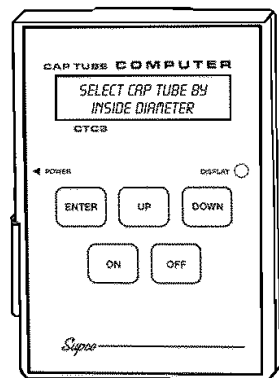

Figure 2
- (2) Fig.2 shows the operating switches.
- (3) The Display adjustment regulates the contrast in the display screen.
- (4) Pressing ENTER will put the display figures into the computer.
- (5) Pressing UP or DOWN will either change the display to another program, or raise/lower the numbered item in the display.